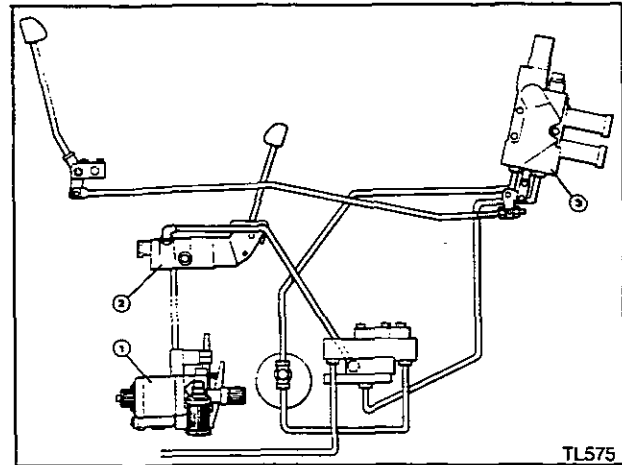

Figure 16.
4. Figure 16. Oil from the linkage pump (1) via a selector valve (2), combined with the flow from an engine mounted pump to the spool valves (3). This is known as combined flow – single or double acting cylinders. The lower links will be locked when the Selector Valve is moved to the external position.